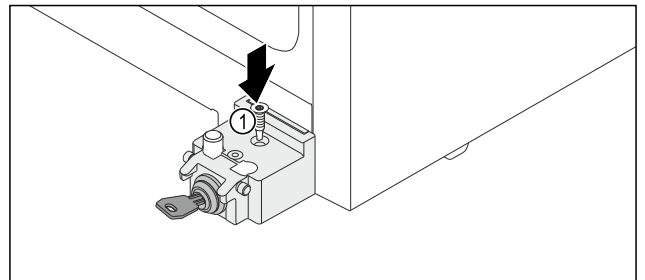

Fig. 19
- ▶ Screw in the screw Fig. 19 (1).